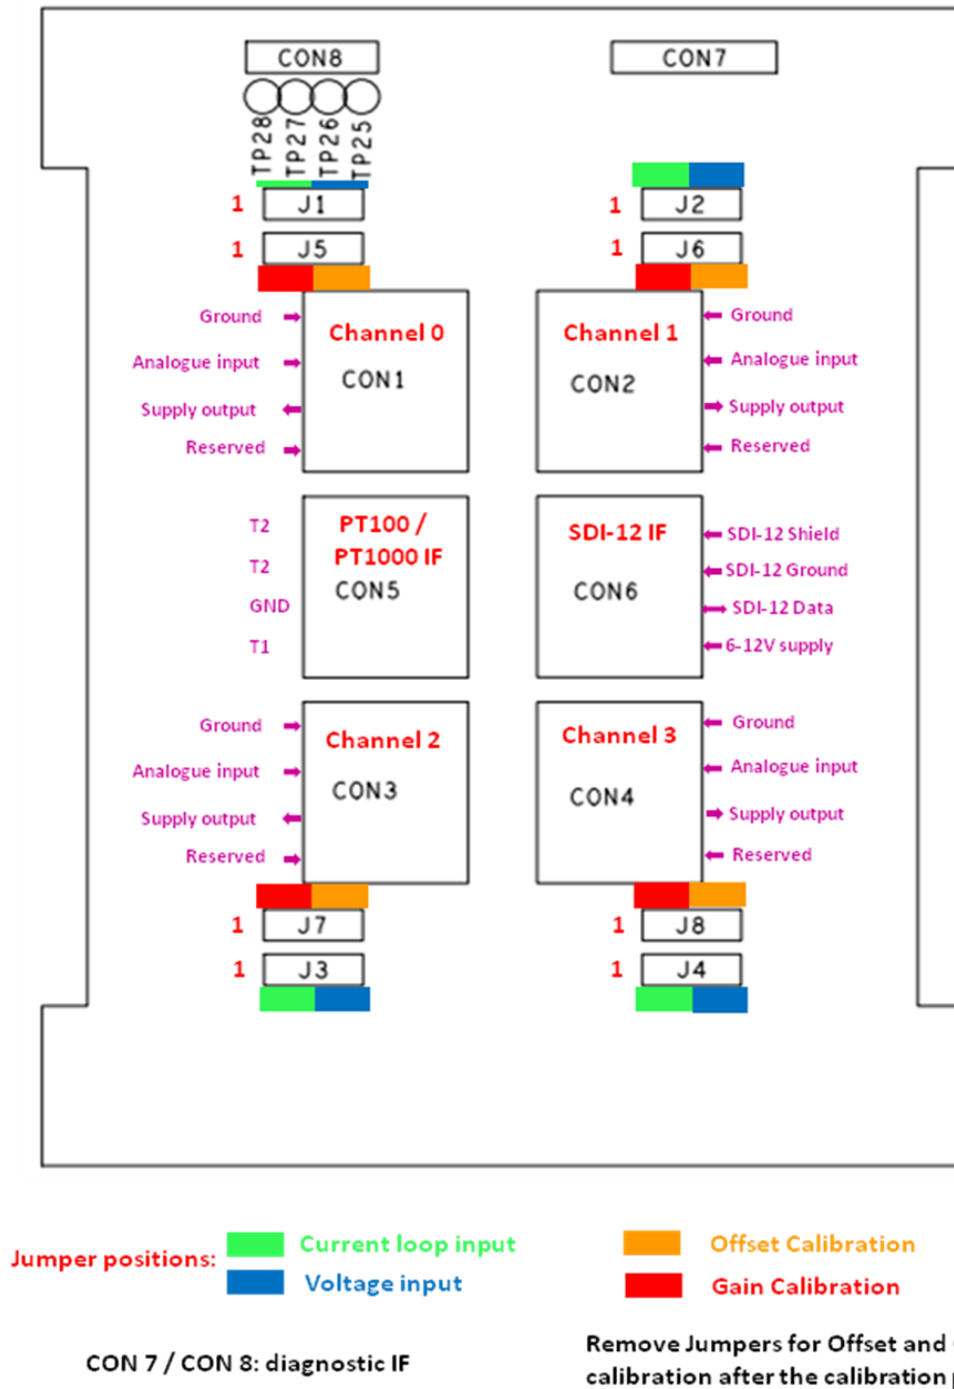

Figure 3 – TBSAB02 Board Connections, Jumper Settings; default: voltage measurement
Refer to Figure 3. Settings for J1 to J8 are identical with TBSAB02; default set to voltage measurement
Refer to Figure 3 for the jumper positions. “Blue” refers to the jumper position for voltage input mode; “green” refers to current loop mode.
Connect sensors with ratio metric voltage output to the TBSAB02(DR) according to figures 3/4.
Connect loop powered sensors to the TBSAB02(DR) according figures 3/5.
Connect PT100 or PT1000 sensors to the TBSAB02(DR) according figures 3/6.
Short all 4 analogue inputs to ground by setting jumpers J5, J6, J7, J8 according figure 3. After grounding the inputs, issue the **aXOVL!** command. Remove the jumpers after calibration.
Connect all analogue input pins to the onboard precision 2,5V reference voltage by setting jumpers J5, J6, J7, J8 according figure 3. Issue the **aXOVH!** command. Remove the jumpers after calibration.